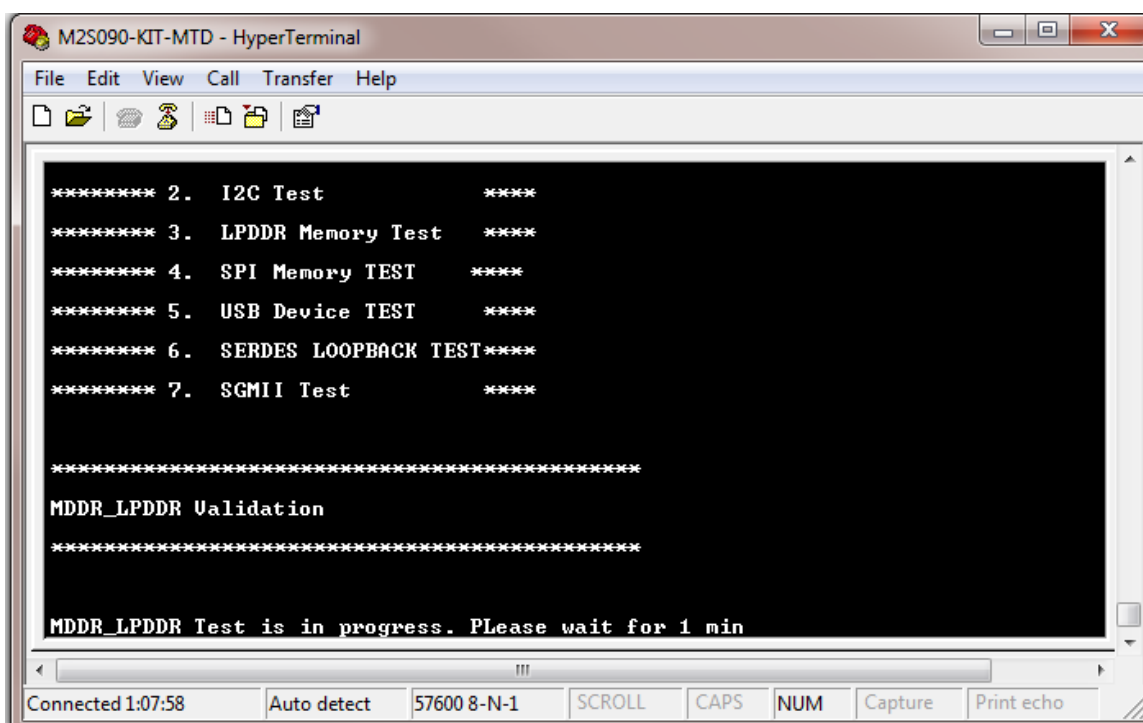

Figure 41 LPDDR Memory Test
7. Wait for 1 minute to complete the test. When the test is passed, a message is displayed. Refer to Figure 41.